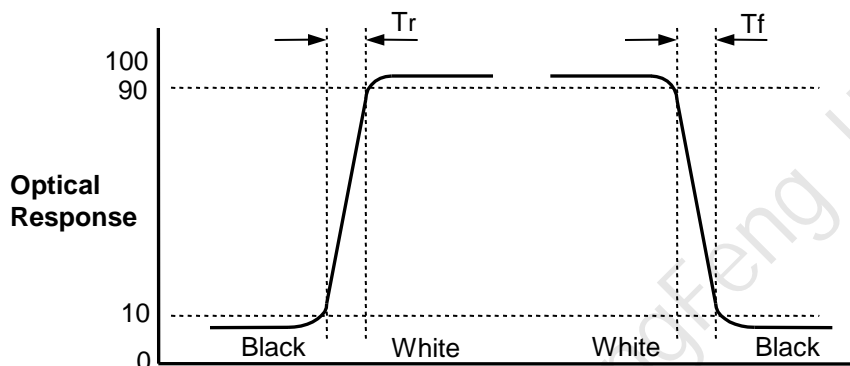

FIG.9 Response Time
- Response time is the time required for the display to transition from G(0) to G(255) (Rise Time, Tr) and from G(255) to G(0) (Decay Time, Tf). For additional information see the FIG.9.